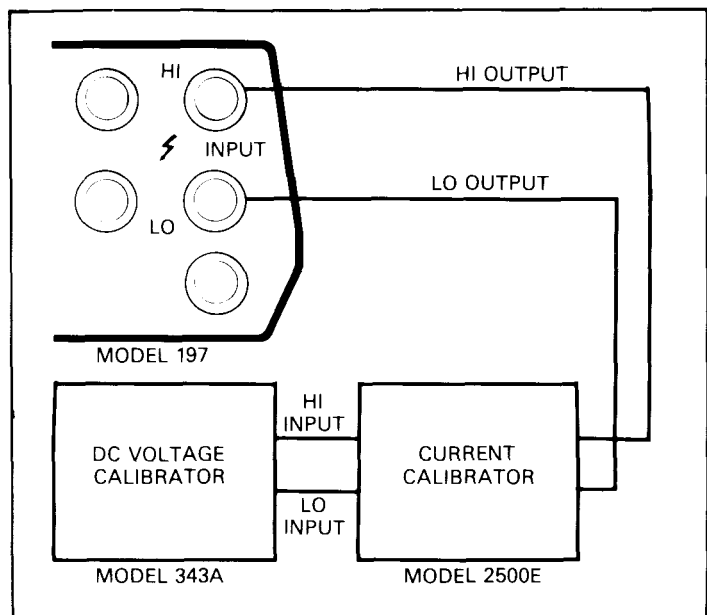

Figure 3-5. Connections for DC Current Verification (200 μ A to 2000mA)
2. Connect the instrument to the DC current calibrator as shown in Figure 3-5. The HI side of the AMPS terminal should be connected to the HI terminal and the LO side of the calibrator output should be connected to LO.